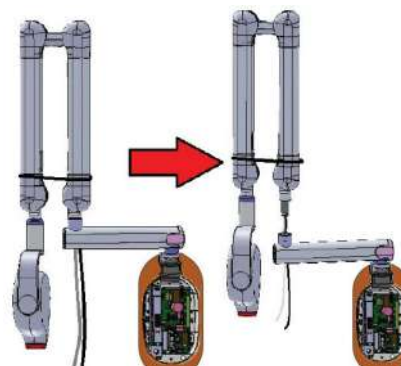

Figure 63
- Hold the scissor-arm firmly with both hands and slowly lift it simultaneously pulling the cables out of the straight arm carefully as shown in Figure 63 . Keep the Scissor-arm separate on a cushioned surface.